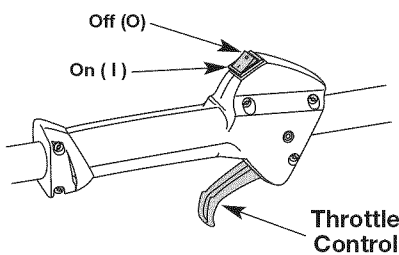

Fig. 5
NOTE: There is no need to turn the unit on. The On/Off Control is in the ON (I) position at all times (Fig. 5).
2. Press and hold the On/Off Control in the OFF (O) position until the engine comes to a complete stop (Fig. 5).